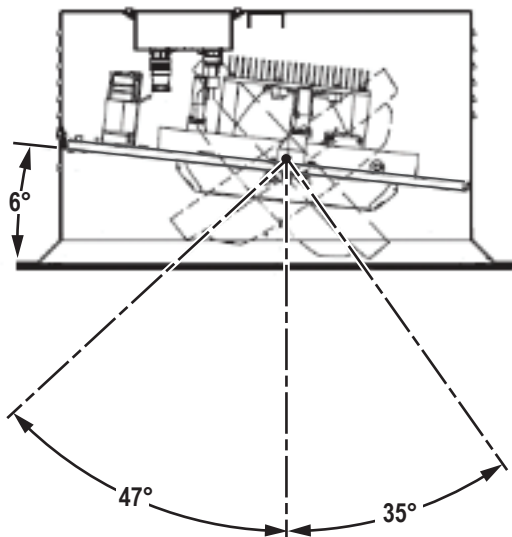

Figure 2. Lighthouse Angled Position (Standard)
- At the standard factory default, the lighthouse is angled at 6° from horizontal (Figure 2).